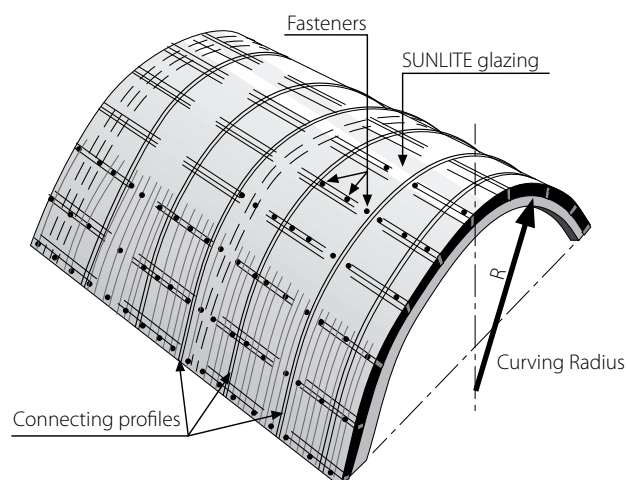

Figure 4
2. The sheets should be installed with the rib channels in the direction of the slope (Fig. 6), vertically in wall covering, or following the direction of the arched rafters (Fig. 4) in arched roofs.